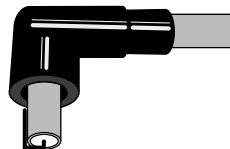

Figure 3
7. Fold the conductor back along the wire. (See Figure 3)